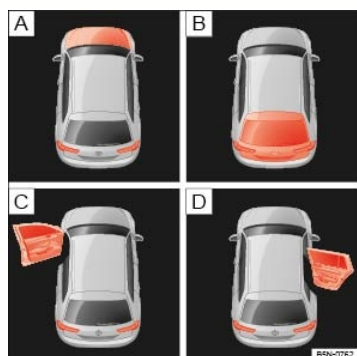

Fig. 14 In the instrument cluster display: : Open engine hood, : Open trunk lid, : Open front driver side door, : Open rear passenger side door.
- Open doors, engine hood, or trunk lid ⇒ Fig. 14
Key to ⇒ Fig. 14 :